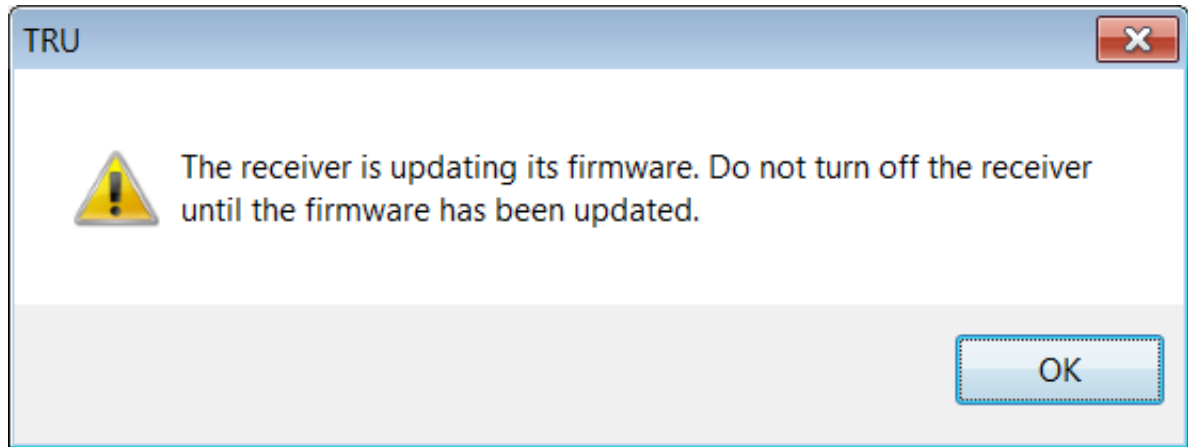

Figure 64: Firmware Update In Progress
12. When the upload ends, click **Finish**. A prompt appears indicating that the receiver is updating firmware (Figure 64).